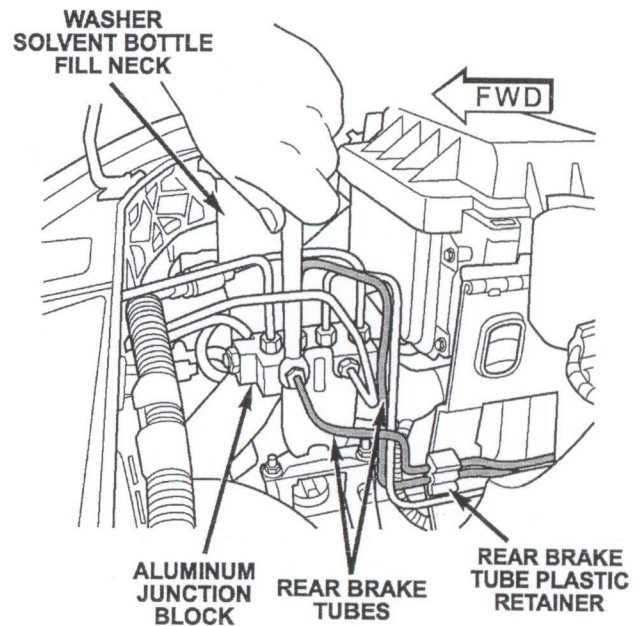

Figure 2 – Without ABS Shown
2. Disconnect the damaged brake tube at the brake system aluminum junction block/ICU (Figure 2).
4. Unclip the brake tube from the brake tube plastic retainer (Figure 2).
25. Connect the new brake tube to the aluminum brake junction block/ICU (Figure 2). Tighten the tube nut to 177 in. lbs. (20 N·m).
26. Clip the new brake tube into the plastic retainer (Figure 2).